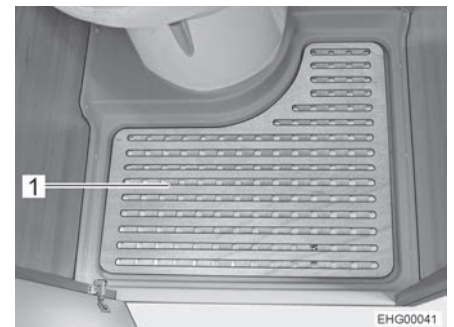

Fig. 79 Removable floor plate
- Take out the removable floor plate (Fig. 79,1) for showering.